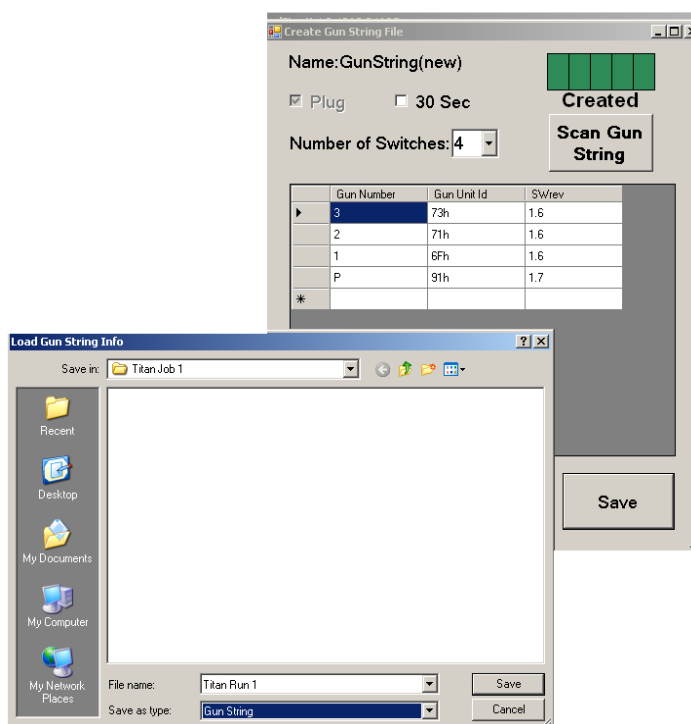

Figure 20
8. Figure 20, a Titan Run 1.gsi file was created.